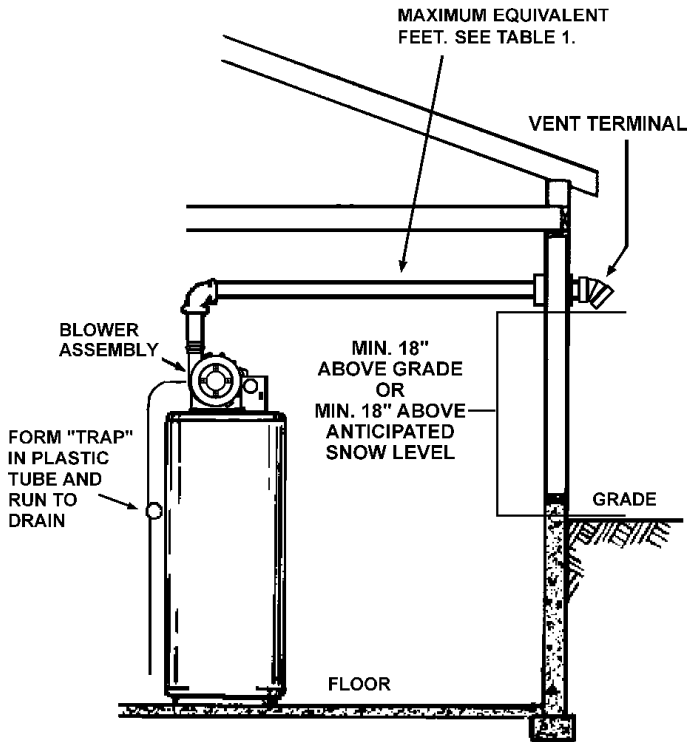

FIGURE 20
1. Vent Termination must extend a minimum of 18 inches (46 cm) above roof or 18 inches (46 cm) above the anticipated snow level to prevent blockage of the vent termination, as shown in Figures 20 and 21.